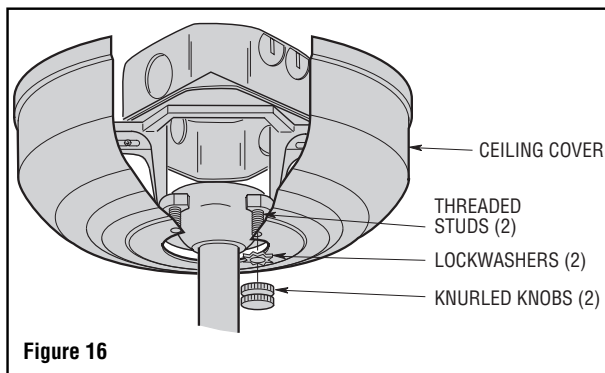

Figure 16
4. Lift the ceiling canopy up to the threaded studs and turn until studs protrude through the holes in the ceiling canopy (Figure 16).
5. Secure the ceiling canopy in place by sliding lockwashers over the threaded studs and installing the two knurled knobs (supplied). (Figure 16). Tighten the knurled knobs securely until the ceiling canopy fits snugly against the ceiling and the hole in the ceiling canopy is clear of the downrod.